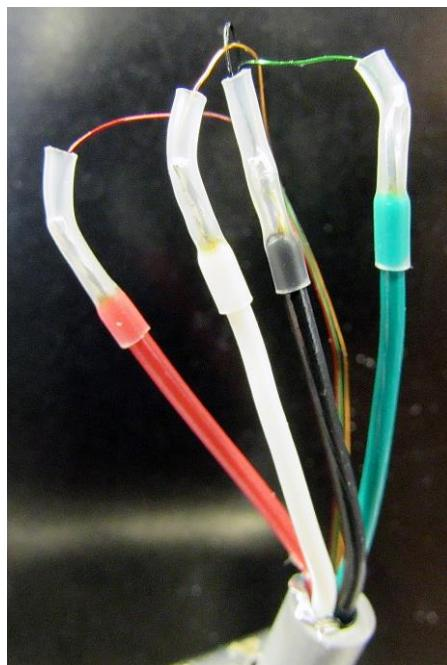

Figure 3-6. Heat Shrink Tubing on the Solder Joints
See figure 3-6.
**Important** – The purpose of figure 3-6 is to show how the heat shrink tubing should be installed over the solder joints, but the colors of the RTD cable leads shown in the figure are not accurate; the actual colors are listed in table 3-5.